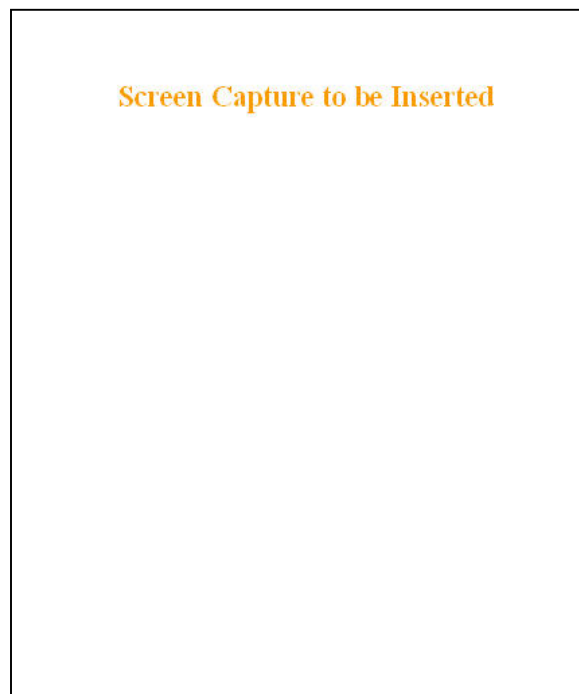

Figure 17 - Setup Wizard - Page Five (Router mode)
6. On page five (Figure 17) of the Setup Wizard, read the on-screen instructions. If configuring for Router mode, you have completed. For Bridge mode, click the “Switch to Bridge mode” button and follow the instructions below for both modes of operation: